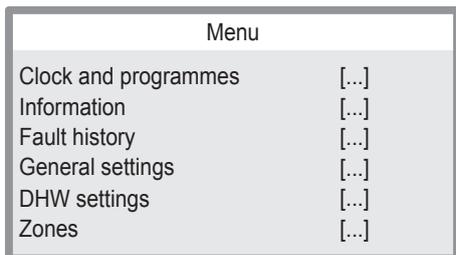

Figure 4.18
- 1 Press key "D" (Figure 4.17) to go to the main menu (Figure 4.18).